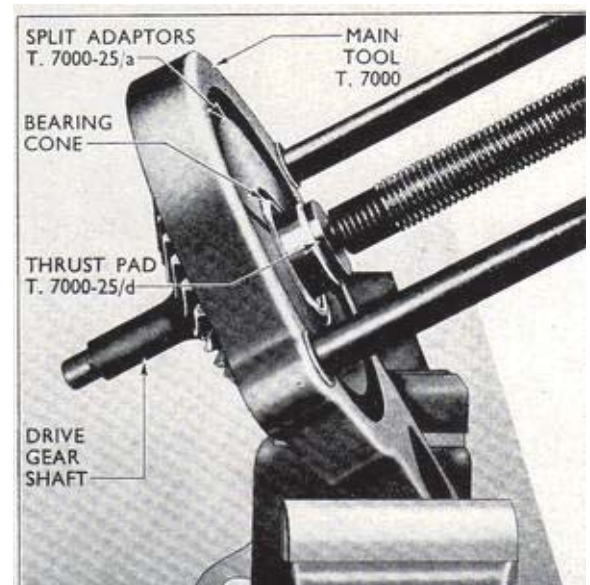

Fig. 11
9. Removal of the drive gear shaft large bearing cone is carried out again using the Main Tool T.7000 but for this operation the slave ring is not required. Position the shaft so that the large bearing cone is inside the bore of the tool with the hollow end of the shaft towards the tool centre screw, then locate the split adaptors T.7000-25/a around the bearing cone and in the tool. Fit the thrust pad T.7000-25/d to the hollow end of the shaft and operate the tool to press the shaft out of the bearing cone (see Fig. 11).